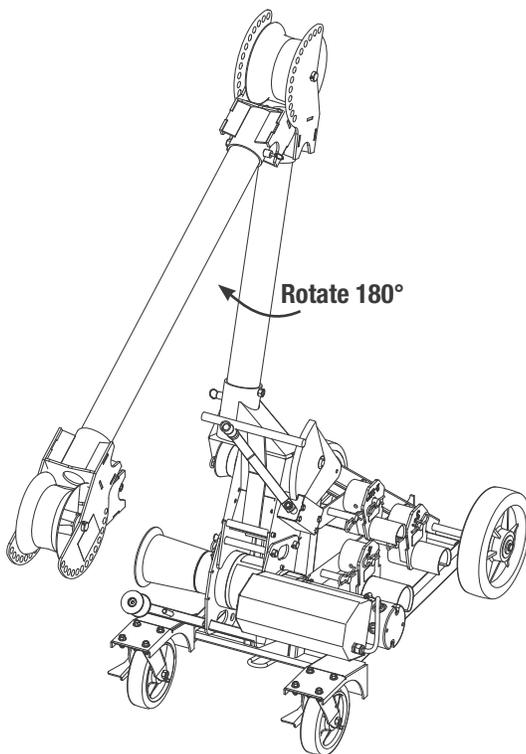

Figure 13: Rotate Boom
4. Lift up on the nose to release any preload on the detent pin securing the back boom to the elbow. While holding the elbow detent pin securing the back boom, rotate the elbow and front boom 180° by walking it around the carriage until the detent pin can be secured into the other hole on the back boom. (Fig. 13)